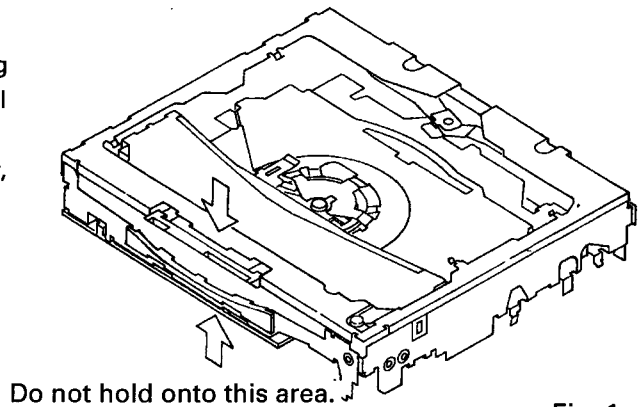

Fig. 1
2. The front section of the upper frame is not very sturdy, so this section should not be held too firmly (see fig. 1).